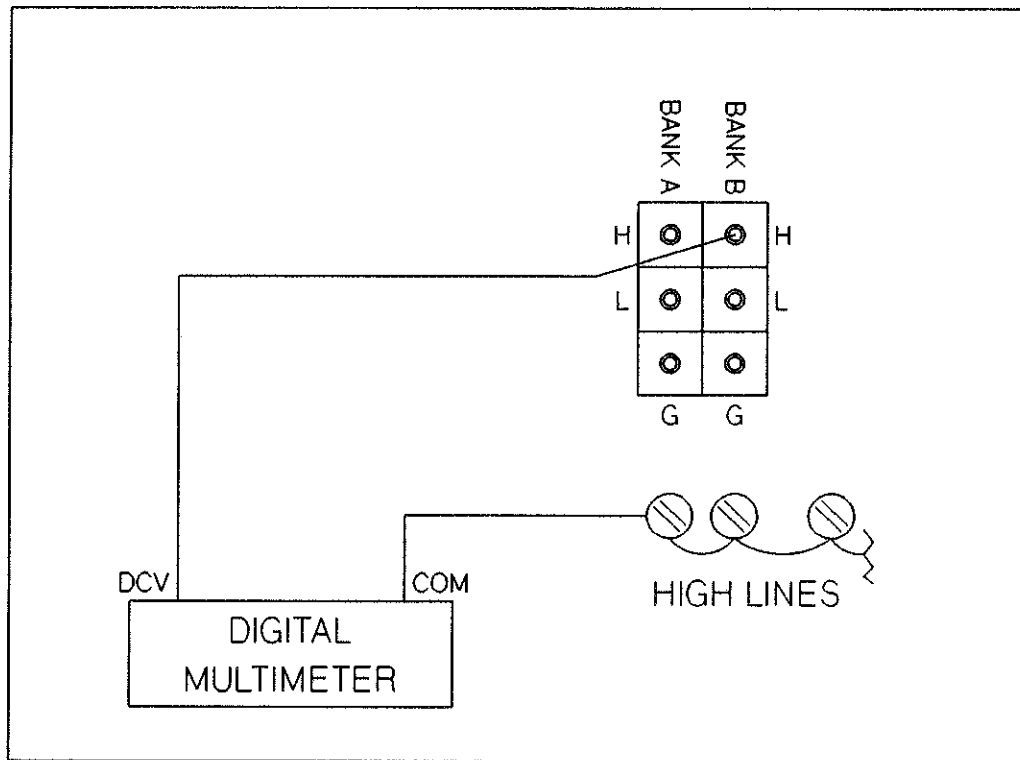

Figure 8-29 HP 44705A/H Bank B HIGH to Common Thermal Offset
13. Connect the multimeter test leads between the Bank B common HIGH test point and the shorted HIGH connections of the test fixture as shown in Figure 8-29.